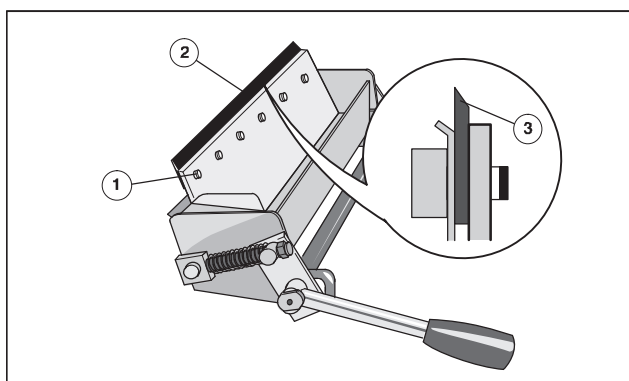

Fig. 72 Washup device, PU 1
1. Loosen the screw fasteners (Fig. 72/1) of the plastic lip.
2. Replace the plastic lip (Fig. 72/2); the **beveled side** of the plastic lip must be directed **towards the pan** (Fig. 72/3).
3. Retighten the screw fasteners (Fig. 72/1).